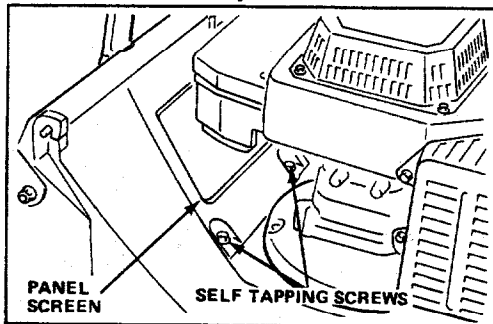

Figure 32
2. Remove (2) 1/2" self tapping screws securing panel screen to mower deck and remove panel screen (Fig. 32).